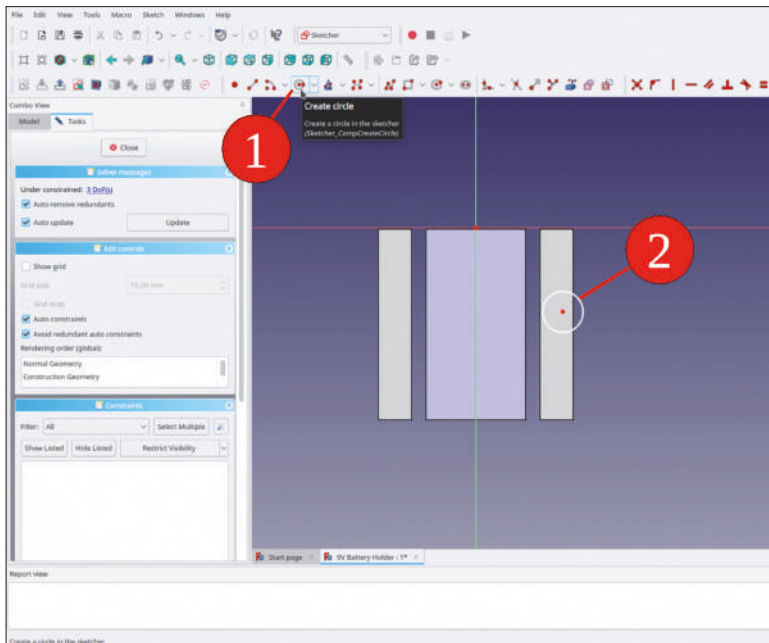

Figure 5-14
18. Click the 'Create Circle' tool button and draw a circle approximately where the mounting hole should go. No special precision is required with this drawing yet (Figure 5-14).